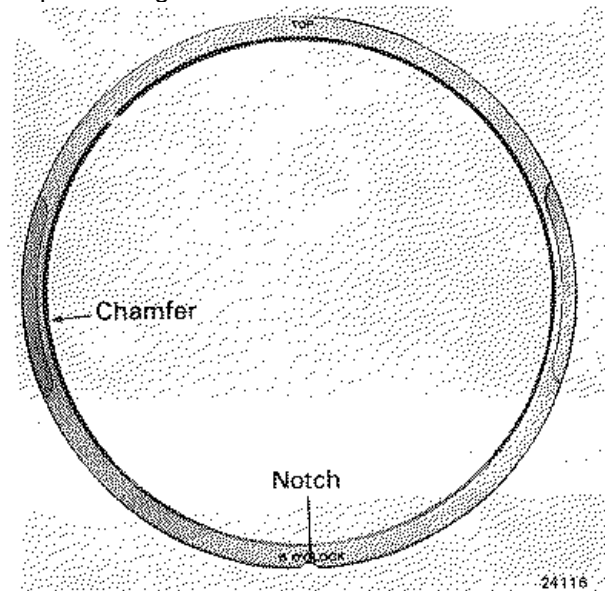

Fig. 5-20 - Cylinder Head Seat Ring
58. Check that the bottom surface of the head is clean and place the seat ring, Fig. 5-20, on the head, making sure that the chamfered side is facing up.